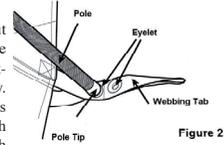

Figure 2
4. Starting at one end insert one pole into the eyelet in the webbing tab that has a coloured tab alongside at the base of and nearest to the flysheet (the outer on is for the peg) and repeat with the other end, by grasping the webbing tab firmly and pushing the pole through the sleeves (see figure 2). To achieve this the pole sleeves must be eased over the poles, especially over the metal joints or ferrules. This initial process will be greatly eased if the flysheet is lifted and supported from inside. Repeat with the remaining poles.